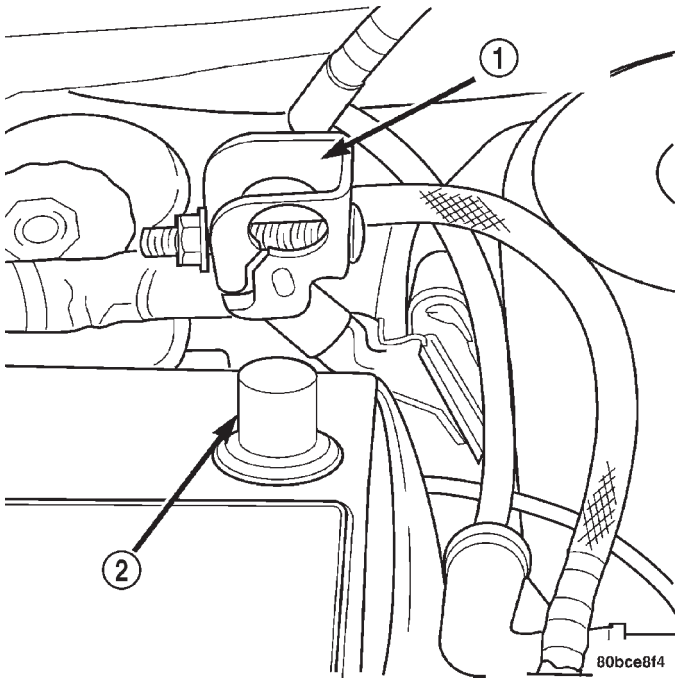
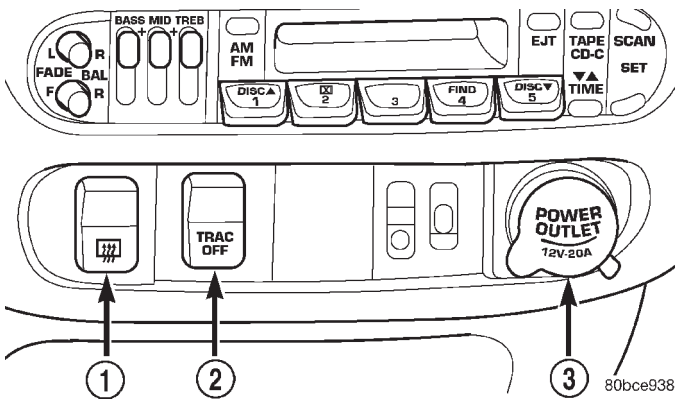

Fig. 6 Battery Negative Cable Remove/Install
Fig. 7 Accessory Switch/Power Outlet Bezel
- (1) Disconnect and isolate the battery negative cable (Fig. 6).
- (2) Remove the instrument panel center bezel. Refer to Instrument Panel Center Bezel Removal and Installation in this section.
- (3) Remove four screws retaining accessory switch/power outlet bezel (Fig. 7).
- (1) Insert a small screwdriver into notch by lens and gently pry out unit. Refer to (Fig. 7).
- (2) Slide back rear cover to expose bulb.
- (3) Replace bulb.
(1) Disconnect and isolate the battery negative cable (Fig. 6).
(2) Open the glove box and push the glove box sides inward allowing the door bumpers to clear and the box to tip forward.
(3) Reach inside the opening and squeeze the lamp/switch retainers until they are disengage.
(4) Pull the switch/lamp rearward and remove it. Replace the lamp. To replace the switch disconnect wire and replace the switch.
- (2) Remove both left and right A-Pillar trim covers.
- (3) Remove the instrument panel top cover.
- (4) Remove cluster bezel.
- (5) Remove the four screws attaching cluster housing to the base panel.
- (6) Pull the cluster rearward to disconnect from base panel.
- (7) Remove the cluster assembly.
- (2) Push seats back to their full back position.
- (3) Using a trim stick (special tool #C-4755), gently pry out on left and right A-pillar trim moldings and remove.
- (4) Remove top cover. Refer to Top Cover Removal and Installation in this section.
- (5) Gently pull up on cluster bezel and remove from vehicle.
- (6) Gently pull rearward on left lower instrument panel cover and remove from vehicle.